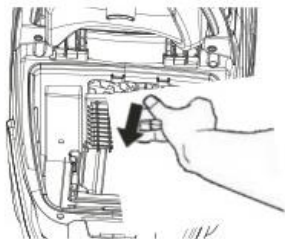

Fig.21
2. Remove the exhaust filter (Fig. 21/1).